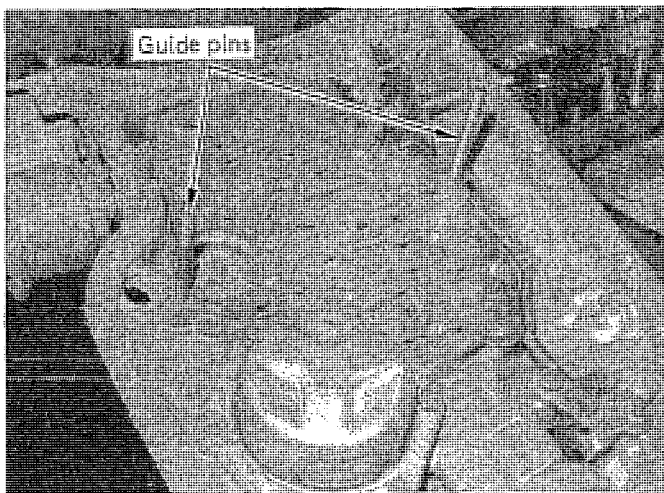

FIGURE 54
STEP 27. Position upper valve body gasket (larger of the two valve body gaskets) against the case. Install the separator plate from the kit. Install lower valve body gasket into position. Install your two guide pins into two valve body holes to hold plate and gaskets in alignment. (See Fig. 54)